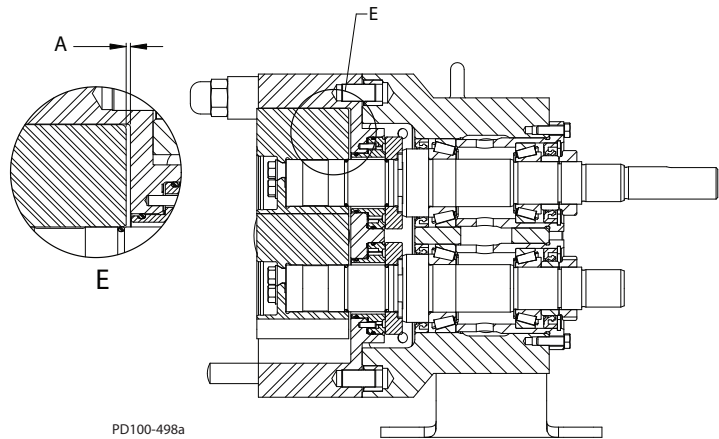

Figure 57 - Rotor to Body Clearance
1. Measure the clearance between the rotor and body as shown in Detail E, item A in Figure 57. Record this number.